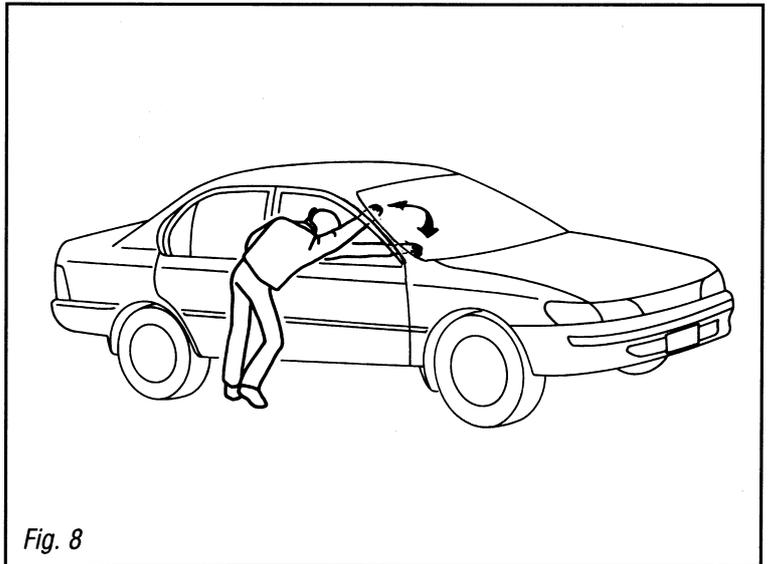

Fig. 8
5) Put your hand through the driver's window and then wave your hand sideways across about 30 cm span several times (See figure 8).